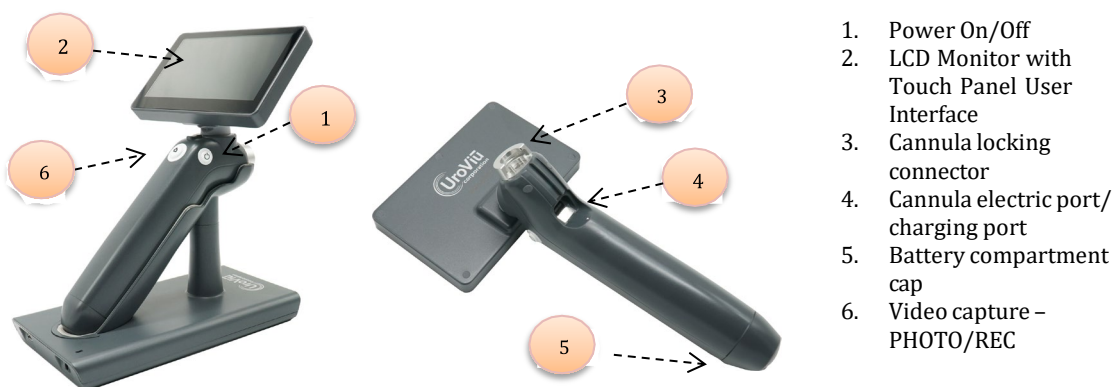

Figure 2. UroViu Handle
- 4.1.1. The handle contains most of the electronics, including a power on/off button, a video capture button, a video processor, a display unit (LCD display), a rechargeable battery, battery management electronics, microcontrollers, and firmware. The device uses a 3.7V rechargeable Lithium ion battery that can last more than 2 hours of continuous use. The battery is charged through an electric port on the handle to connect to a 5V DC charging cradle. Full battery charge requires approximately 4 hours to complete. Docking the reusable handle in the charging cradle between uses and when not in use will ensure handle is ready for the next procedure. Figure 2 shows the reusable handle. The screen has touch screen function for user interaction.